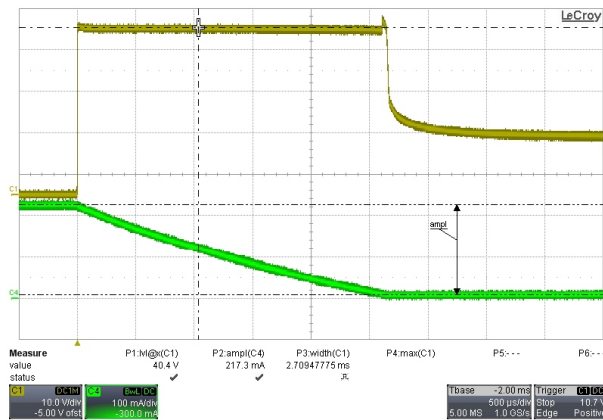

Figure 4. Repetitive Clamping Energy Test
2. Testing particulars, 2M pulses, V_{bat} = 15 V, 63 Ω, 390 mH, T_A = 25°C. (See Figure 4)